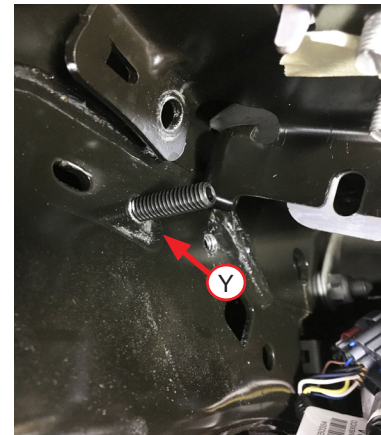

Fig. 20
1. To install the driver's (left) side upper brace (G), if equipped, remove the rearward fifth wheel bracket hardware, set aside for later use (Fig. 20).